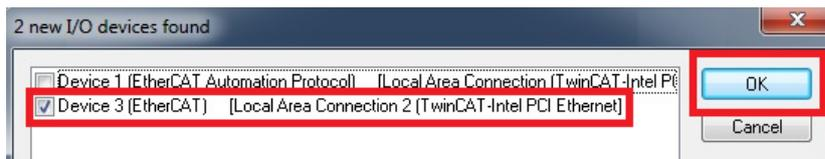

Fig. 5-25
- (5) If one EtherCAT device is detected, it will be shown in the dialogue window of Fig. 5-25. This example shows two devices detected. Check the option of “Device 3 (EtherCAT)” and press the “OK” button.